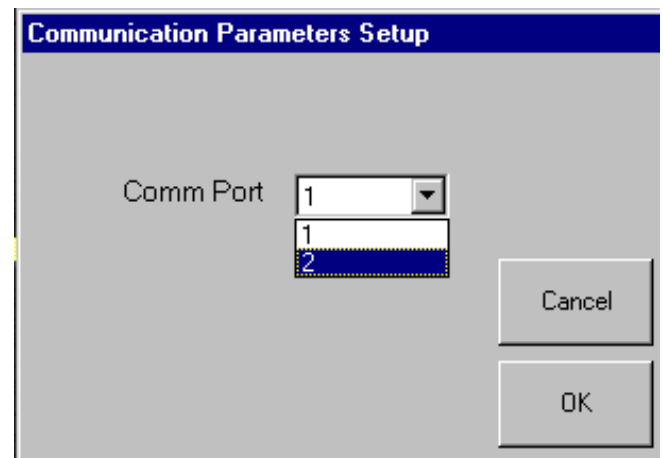

Fig. 13.8
- b. Select 2 for the Comm Port and press the OK button in the Communication Parameters dialog box. See Fig. 13.8.